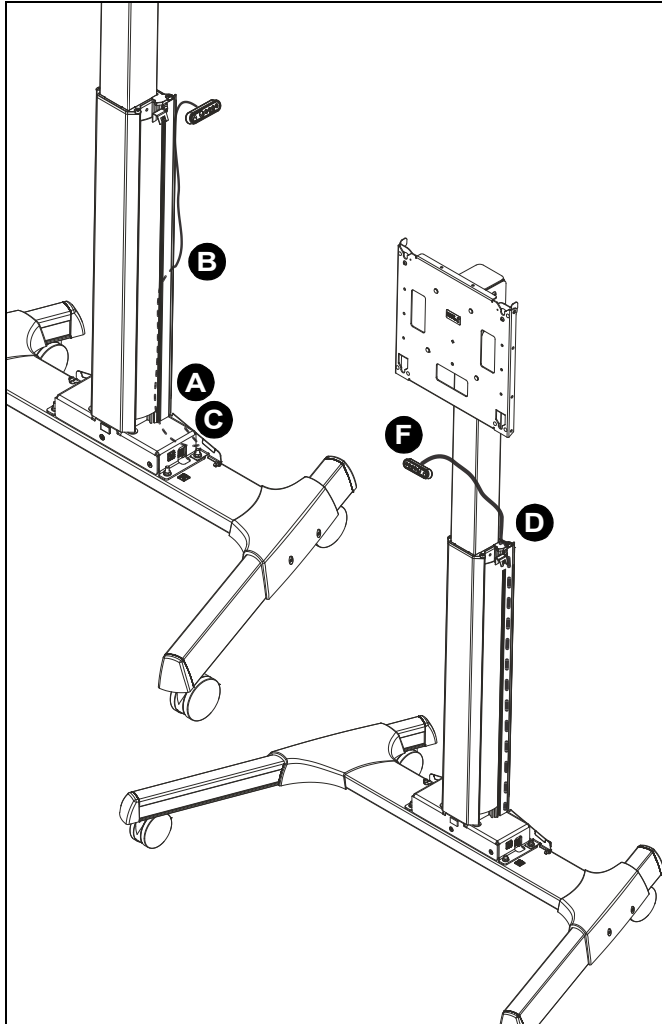
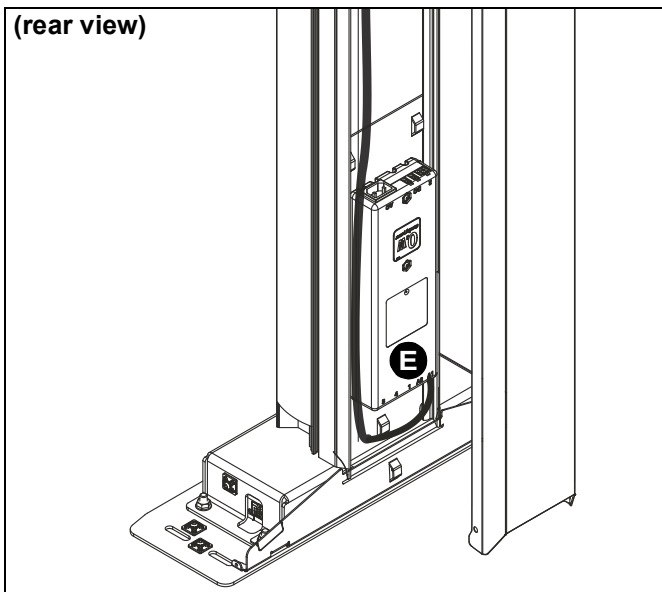

Figure 12
Figure 13
22. (Optional) Relocate control pad to the front center of display if desired following these steps. (See Figure 12) and (See Figure 13)